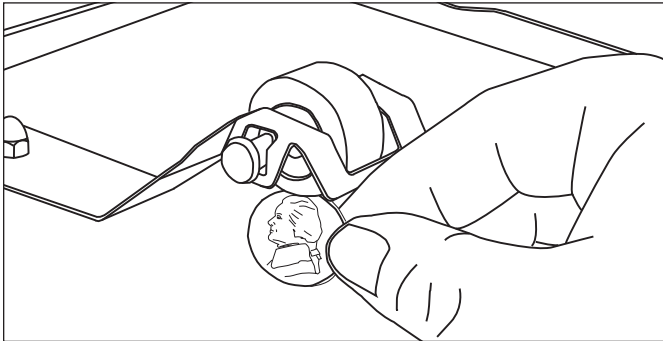

Figure 13. Measuring Roller Tensioner Assy.
1. Measure the Roller Tensioner on both inner Conveyor Covers (Figure 13). The space between the inner Conveyor Cover and bottom of the tensioner wheel should be  $13/16"$  (2.1 cm) or the height of a U.S. Nickel. Adjust or replace any damaged ones as recommended.